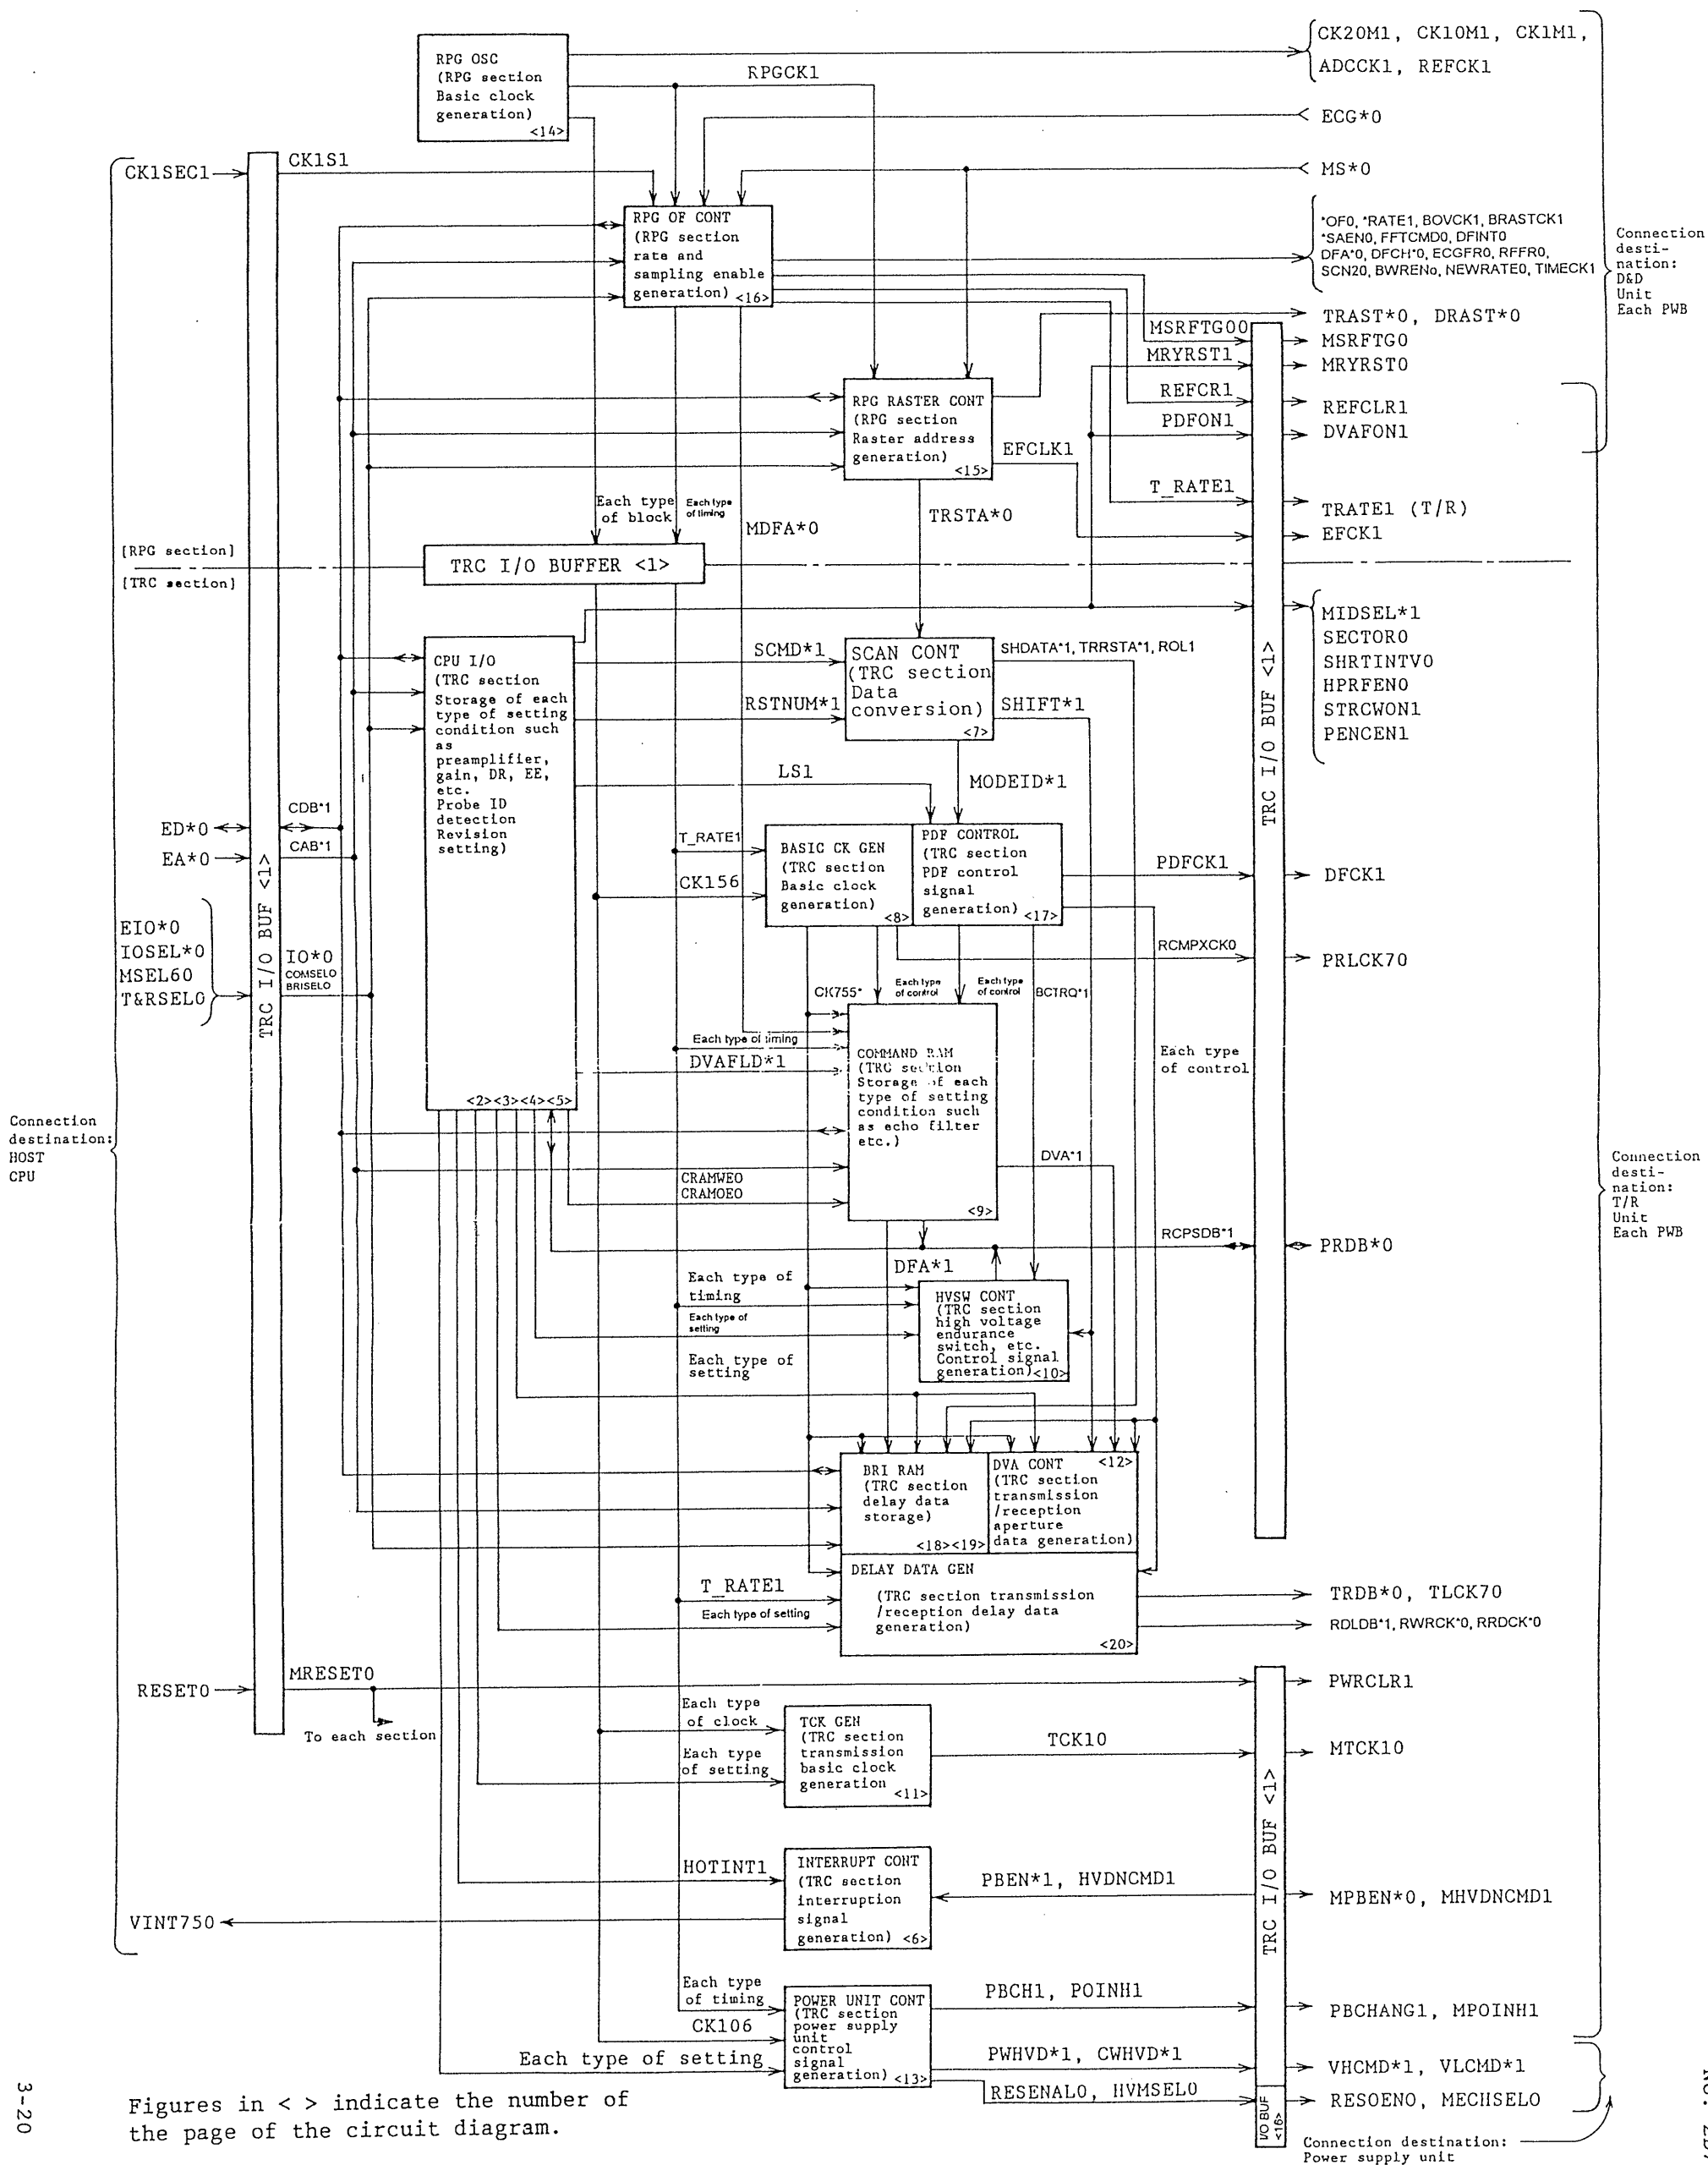

Figure 3.2-2 Block diagram for RPG/TRCONT
(2) Figure 3.2-2 shows a block diagram.